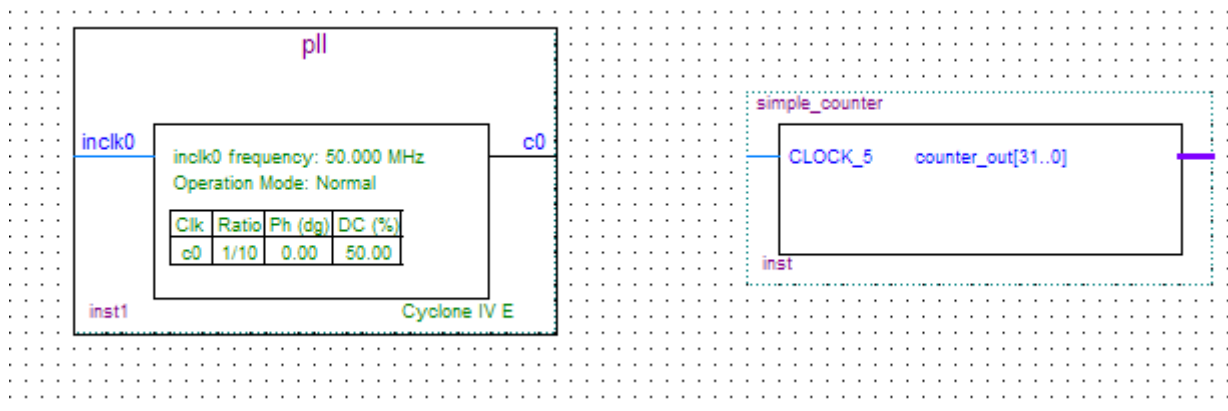

Figure 3-15 Place the PLL Symbol
- Click OK and place the pll symbol onto the BDF to the left of the simple_counter symbol. You can move the symbols around by holding down the left mouse button, helping you ensure that they line up properly. See Figure 3-15.